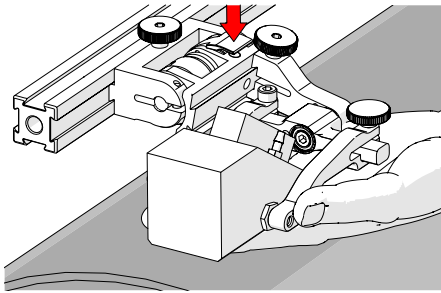

Fig. 111 - Lift and press latch button
3. Lift probe slightly and press latch button (Fig. 111) to apply spring pressure to the wedge.